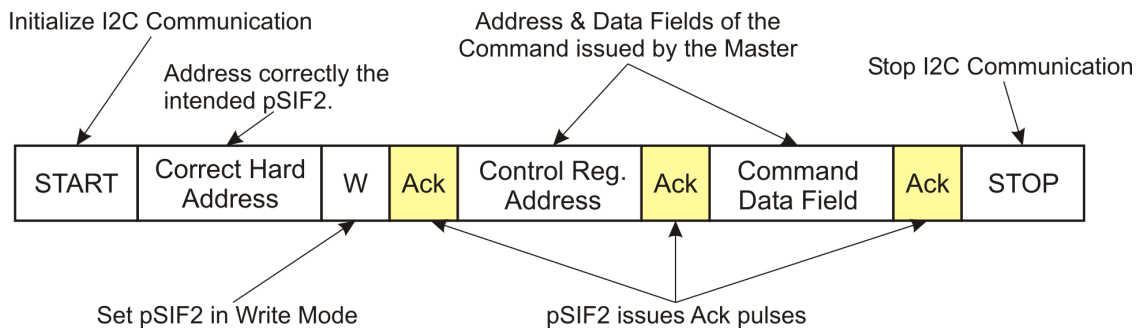

Figure 4: Sequence for issuing Commands to SIF2 through the I2C interface.
- writing configuration data to the device's control logic as shown in Fig. 4.